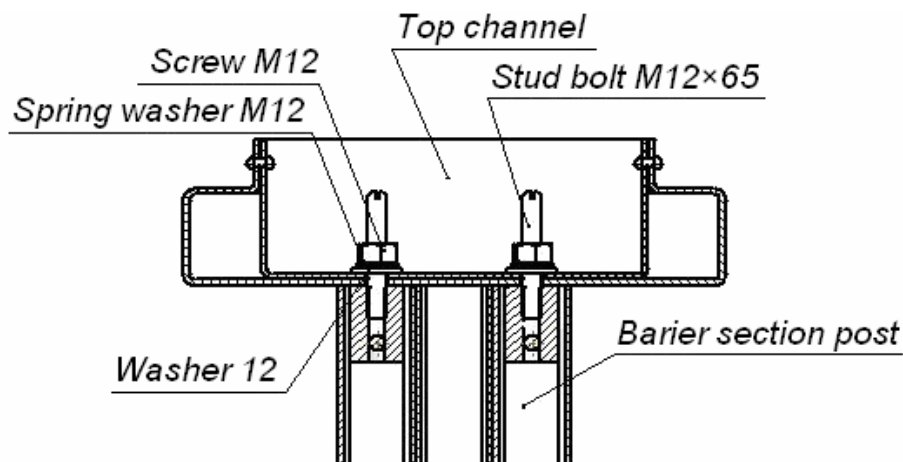

Fig. 14 Fixing the top channel (13) to the barrier section (3)
- 9.1. Screw two stud-bolts M12×65 into the top end of the barrier section (3) (Fig. 14).
- 11.5. Fix the barrier section end of the top channel: place the washer 12 on each stud-bolt, and then place the spring washer 12. Fix the top channel in place by two nuts M12 (Fig. 14), the nuts being screwed on to the middle of the stud-bolt protrusion.